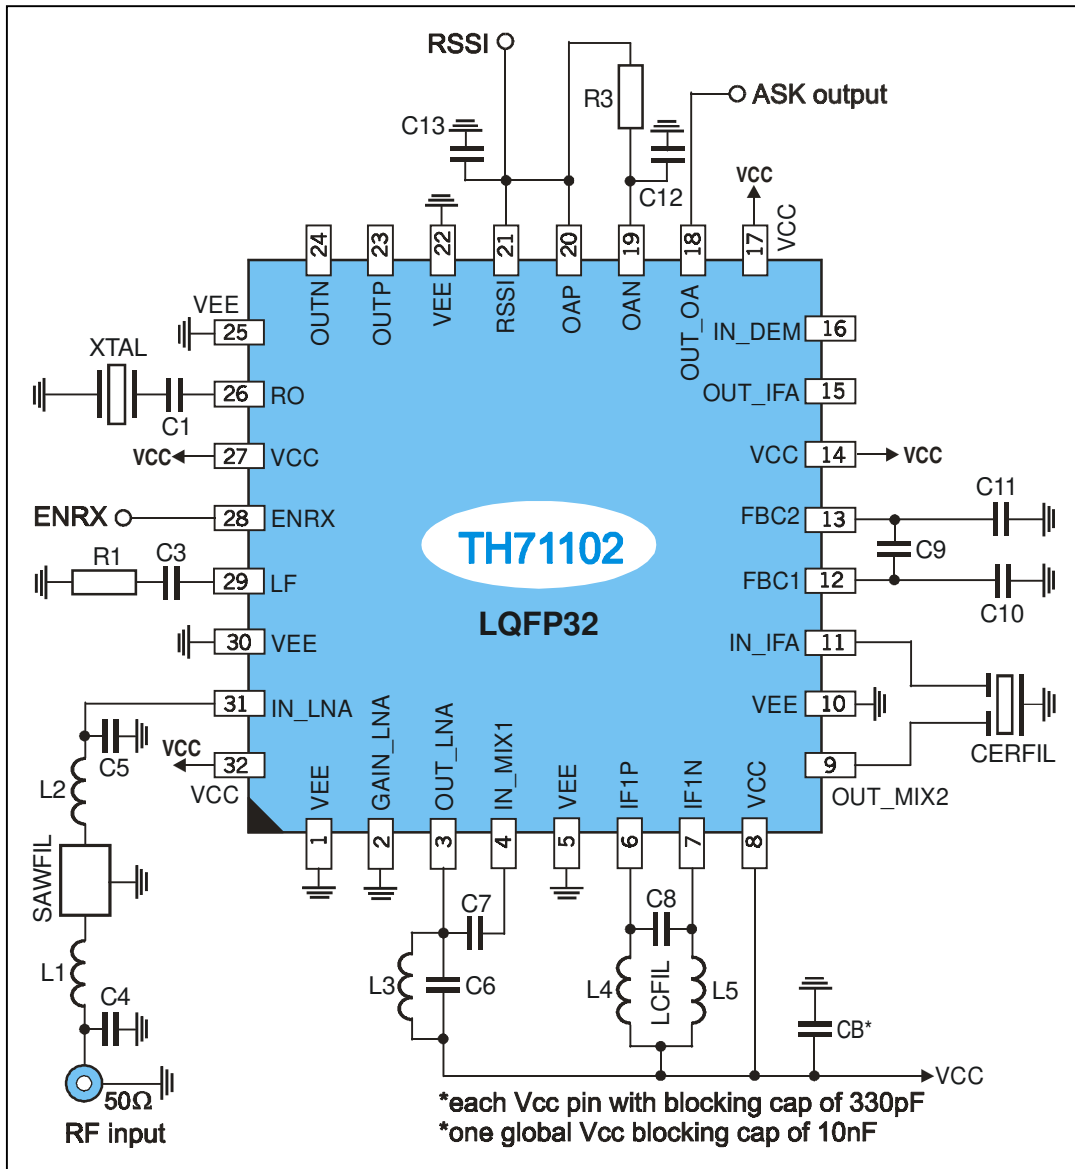

Fig. 4: Test circuit for ASK reception
4.6 ASK Test Circuit Component List (Fig. 4)